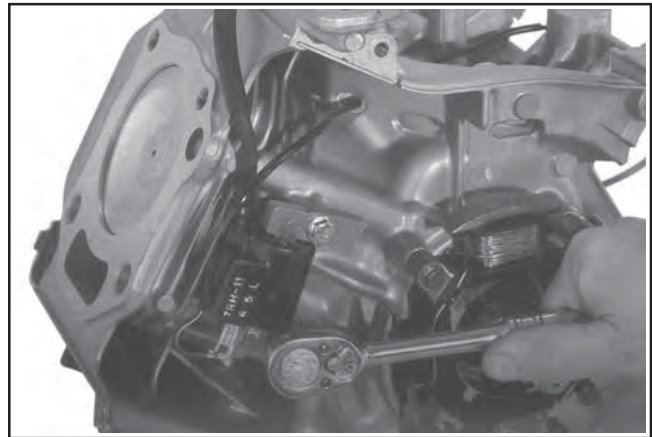

Figure 9-51. Removing the Ignition Module Screws.
1. Remove the two hex flange screws securing the ignition module to the crankcase. See Figure 9-51.